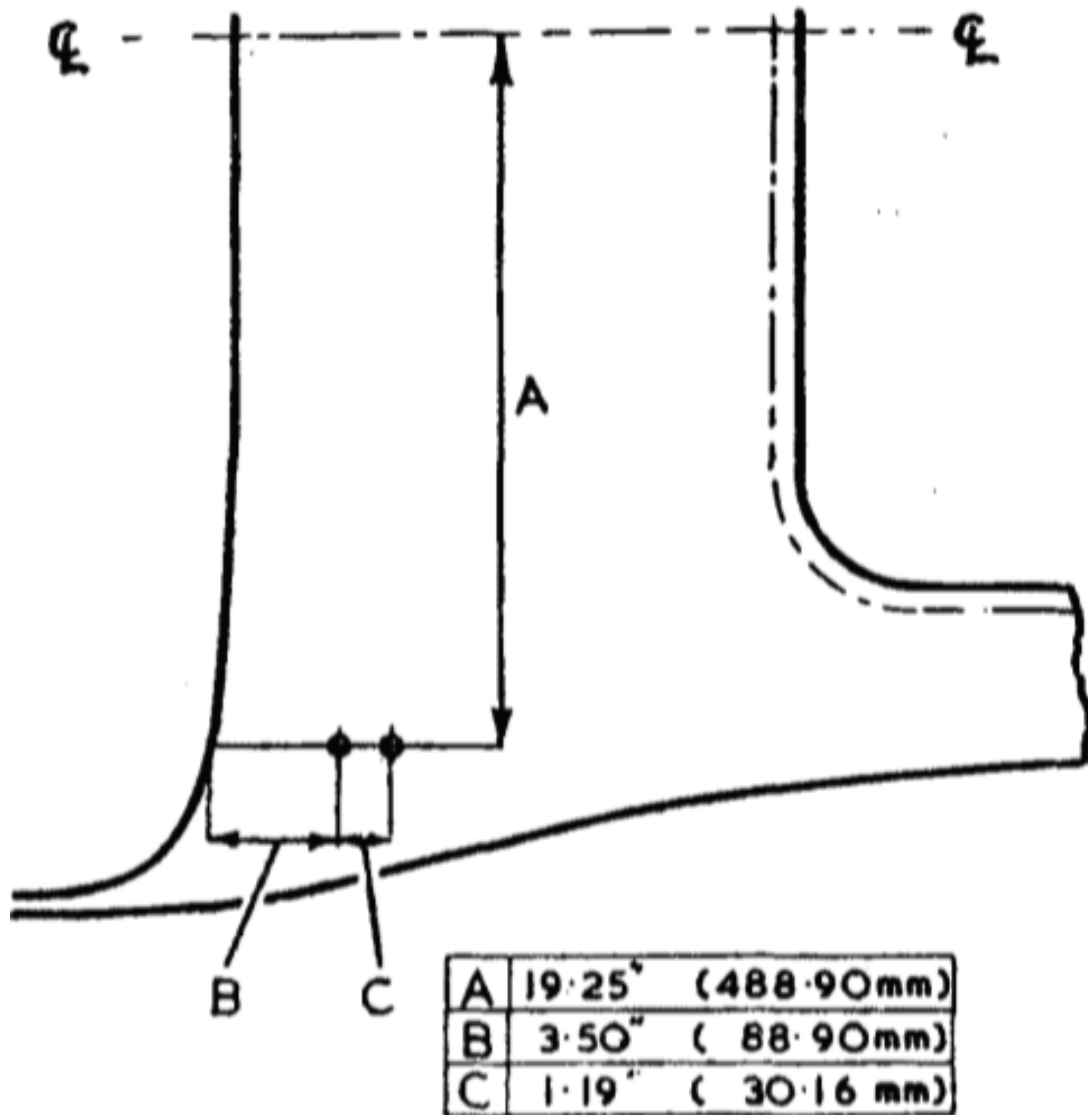

Fig. S.9 The tonneau panel anchorage point
1. Mark off and drill two 11/32 in. (7.73 mm.) holes in the tonneau panel in the position shown in Fig. S.9.